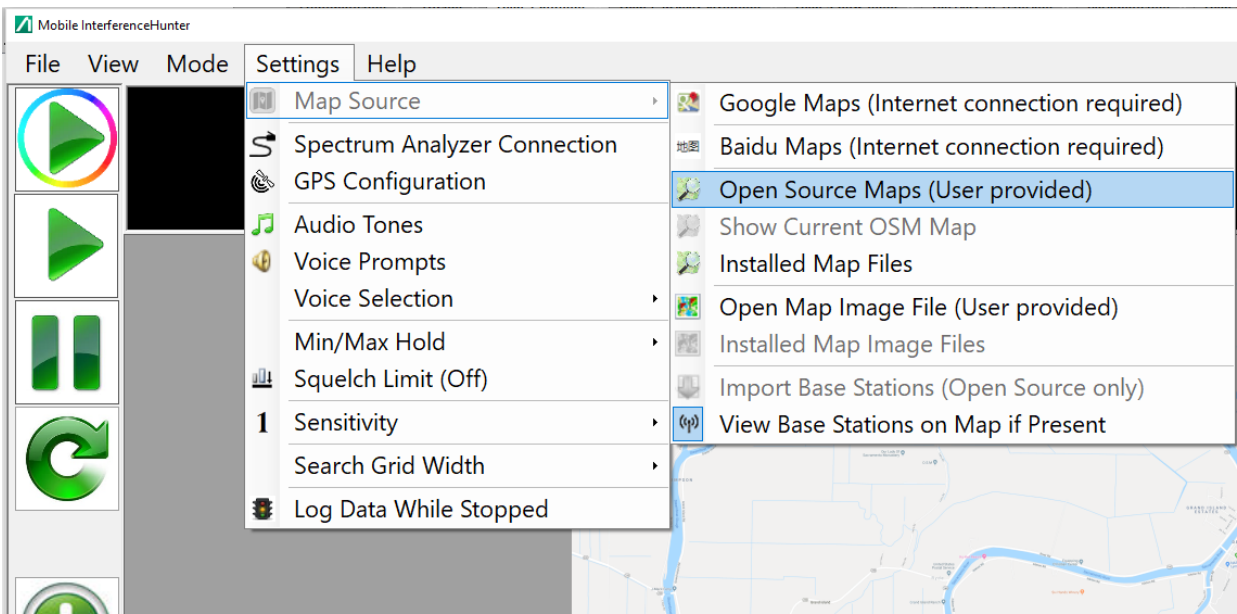

Figure 2-2. Map Source - Open Source Maps
3. Click: Settings | Map Source | Open Source Maps (User provided) (see Figure 2-2)